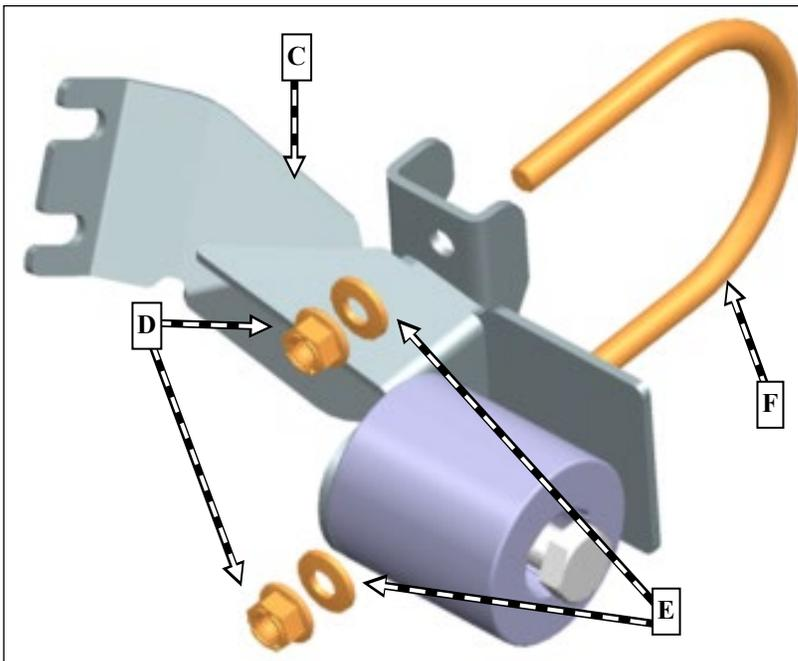

Figure 5
3.3. Prepare vibration damper bracket (C) for installation (Figure 5).
3.3.1. Remove nuts (D) and washers (E) from vibration damper bracket (Figure 5).
3.3.2. Remove U- bolt (F) from vibration damper bracket (Figure 5).